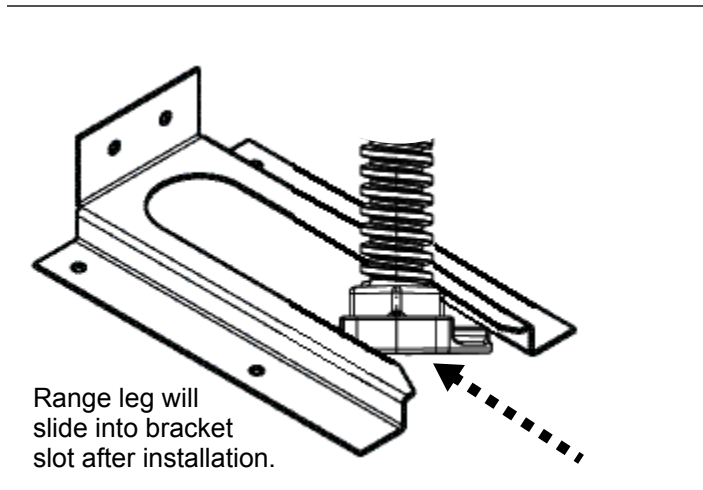
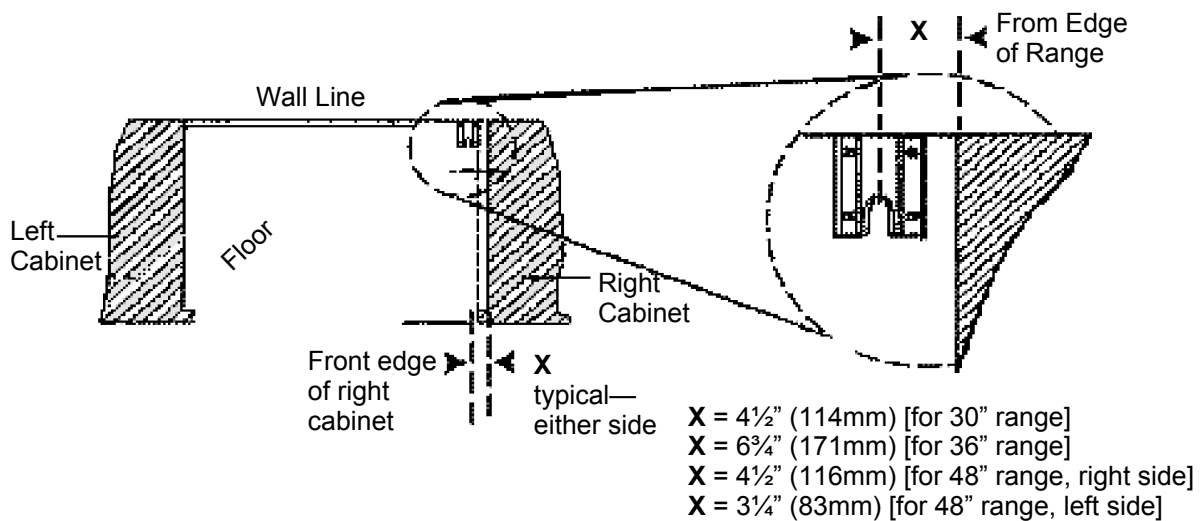

Figure 7: Anti-tip Bracket
Figure 8: Placement of Anti-Tip Bracket (Top View)
1. Place bracket on floor in position shown in *Figure 8*.
2. Secure to floor and wall stud using the (4) 1 1/2" (38mm) Phillips head screws provided.
3. Later, when the unit is installed, the adjustable leg will slide under the bracket, as shown in *Figure 7*.